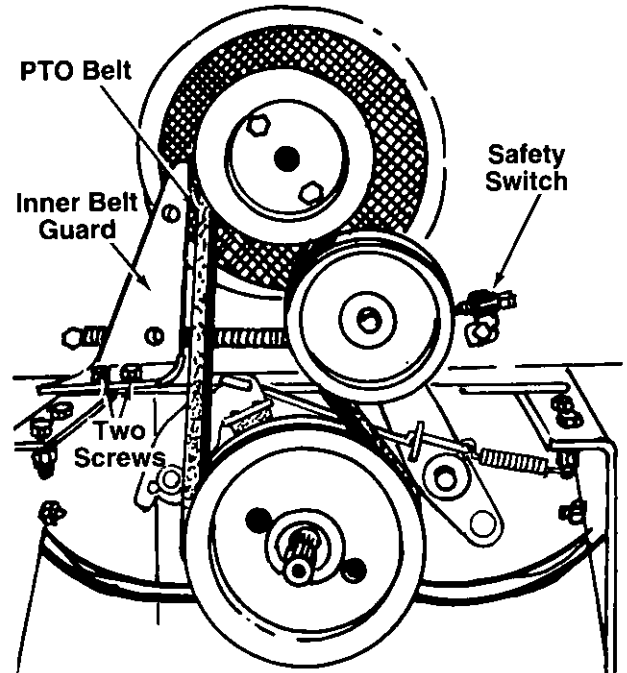

FIGURE 26.
3. Loosen two screws on inner belt guard. See figure 26.
NOTE: Figure 26 is shown with grille removed for clarity.